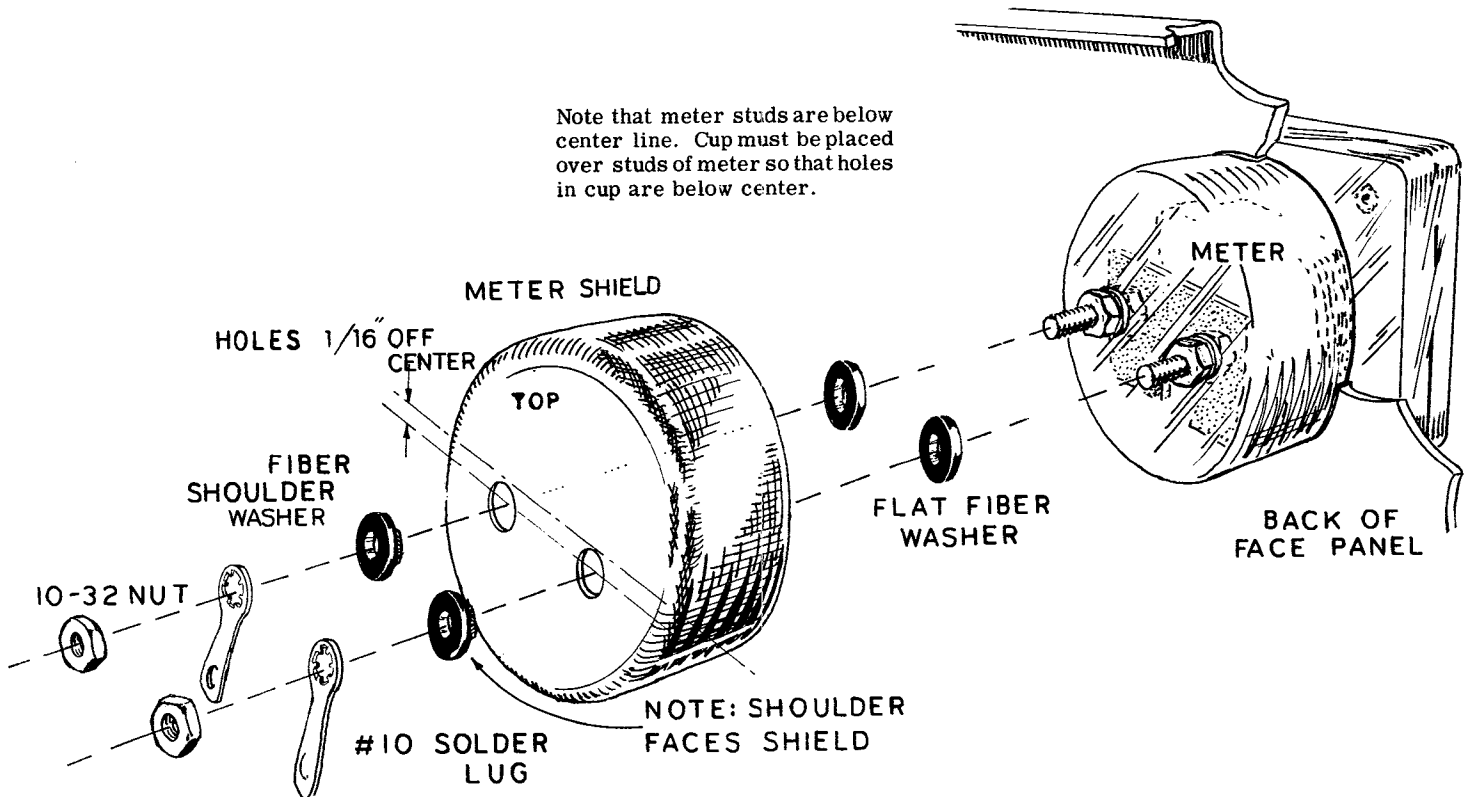

Figure 20
- () Mount the meter, using the flat insulated washers under the shield and the insulated shoulder washers on the outside of the shield. Be sure they seat properly before tightening. See exploded view in Figure 20. Use a #10 solder lug under the 10-32 nuts.
- () Trim the leads on a .002 μ f disc capacitor to 1/2" long. Connect it across the meter to the two #10 solder lugs (NS).